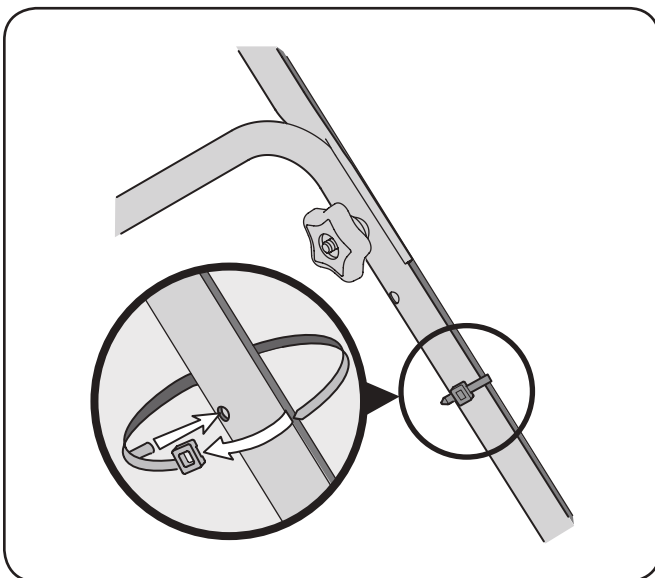

Figure 3-4
- Insert post on cable ties into holes provided on the lower handle. Pull cable tie tight and trim excess. See Fig. 3-4.